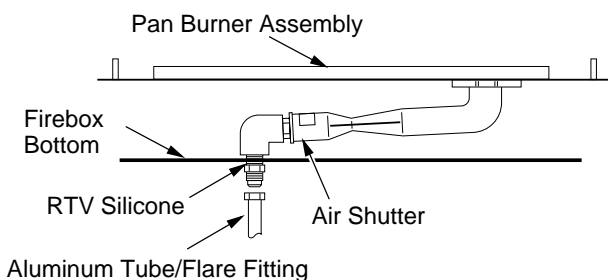
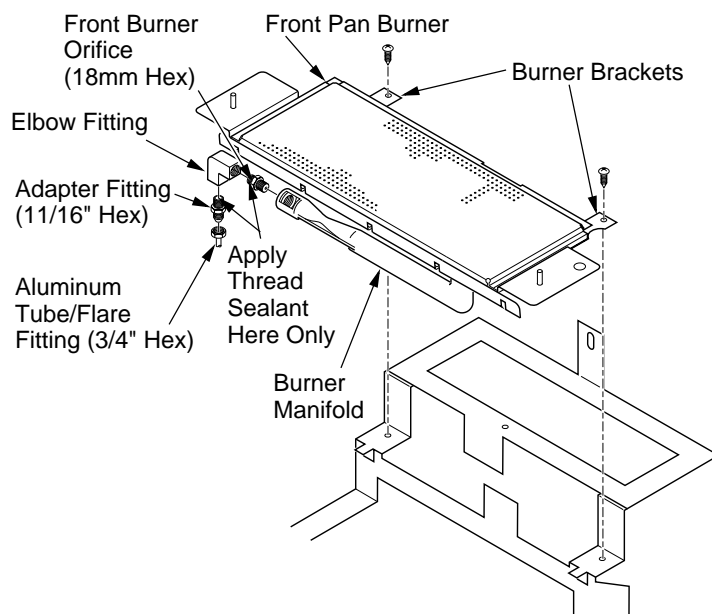

Figure 3 - Removing/Applying RTV Silicone and Locating Air Shutter
Figure 4 - Removing/Replacing Pan Burner Orifice (Tube Burner Not Shown for Clarity)
1. Inside the control compartment under firebox, locate aluminum tube with flare fitting and adapter fitting on the left side. Loosen flare fitting and disconnect aluminum tube from adapter fitting. Use a 3/4" open end wrench (see Figure 3).
2. Carefully cut away the RTV silicone from the adapter fitting where it passes through the firebox bottom (see Figure 3). Remove adapter fitting from elbow fitting by turning counter-clockwise. Use an 11/16" open end wrench.
3. Inside firebox, locate two small burner hold down brackets on rear of pan burner. Remove screws with phillips screwdriver and carefully lift pan burner assembly up and out of firebox (Do not force the assembly during removal.) See Figure 4.
4. Remove elbow fitting with orifice from burner manifold by turning counterclockwise. Use a 3/4" open end wrench. Remove LP orifice from elbow fitting. Apply a light amount of propane/LP resistant sealant to short threaded end of NG orifice (206) supplied in kit. Thread NG orifice into elbow.
6. Locate air shutter at end of burner manifold (see Figure 3). Loosen screw and adjust air shutter to 3/16" open position. Retighten screw.
2. Using screws removed in step 3 of *Pan Burner Orifice Conversion*, page 2, reattach two small burner hold down brackets on rear of pan burner to grate base. See Figure 4, page 2.
3. Apply RTV silicone to adapter fitting where it passes through the firebox bottom (see Figure 3, page 2).